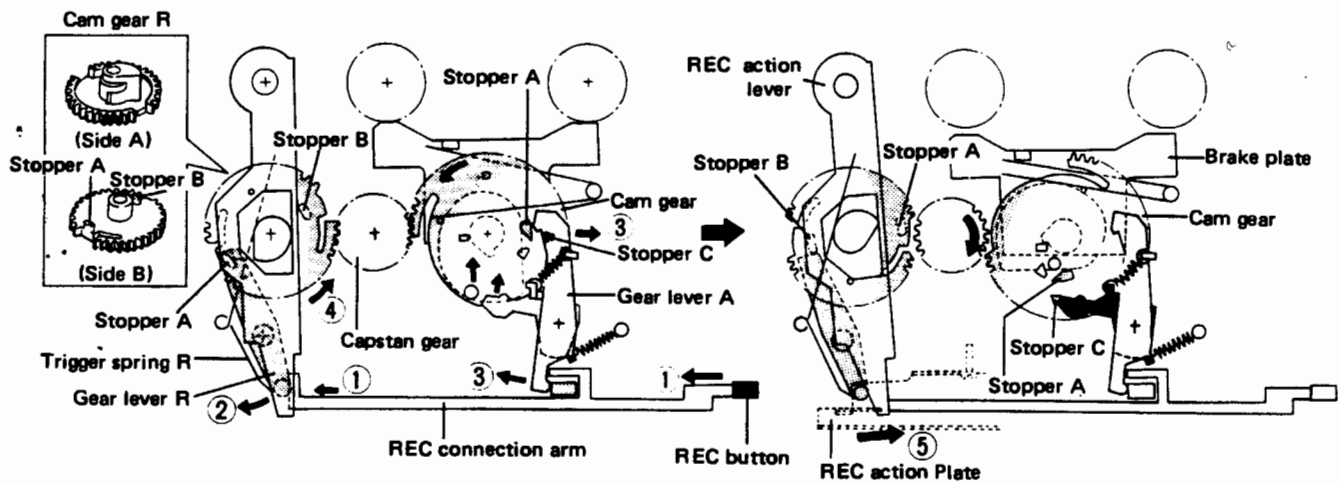

Fig. 15-6 STOP → REC operation
5. Since the pause lever is moved in the ⑩ direction by the pause lever return spring, stopper A on the cam gear is released from the pause lever.
6. The force of the trigger spring moves the cam gear in the ⑨ direction and starts meshing the cam gear with the capstan gear. From this point, all operations are the same as in the PLAY mode, and tape travel is re-started.
**15.5 REC OPERATIONS (Fig. 15-6, 15-7)**